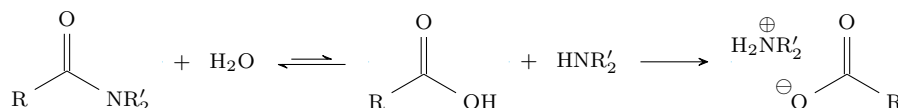

Figure 4.37: Acyl transfer: Amide hydrolysis.
- Under basic conditions, we can't form the salt in Figure 4.37, but we are still thermodynamically driven toward the more stable carboxylate (see Figure 4.20).